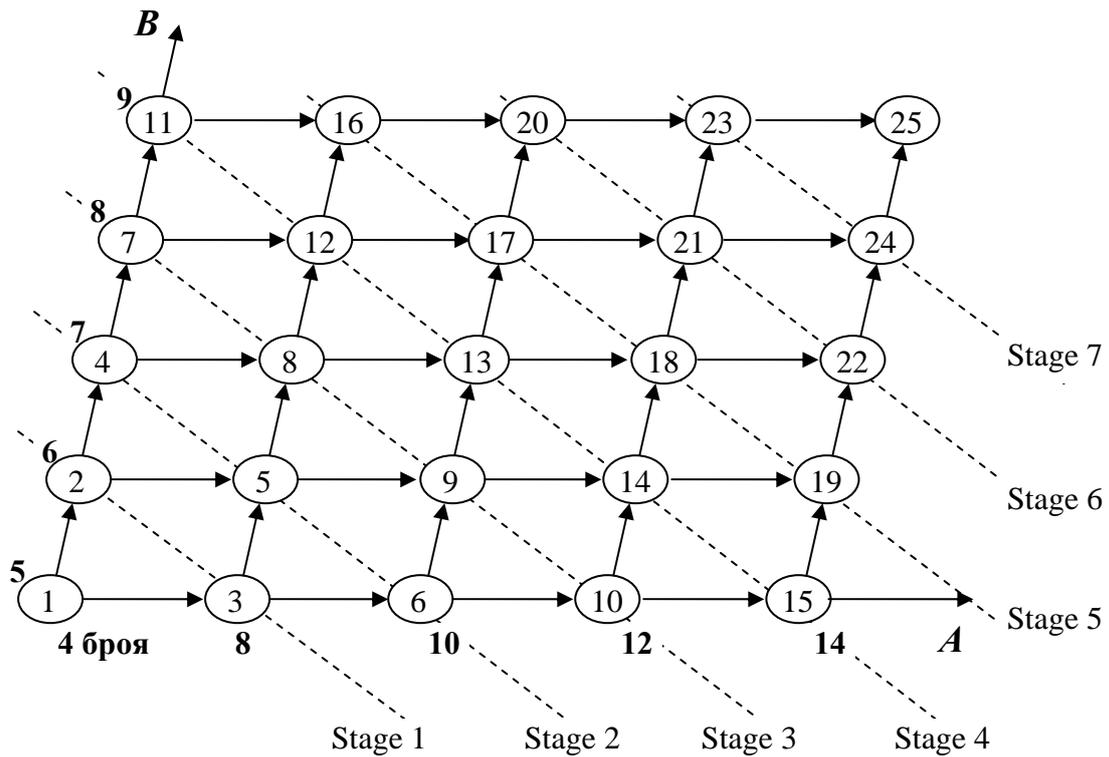

Fig.2. Oriented graph for example 5.
*Solution:* a) Obviously the states of a finite number and the stages correspond to every monthly purchase. To arrange the states we represent them using the oriented graph from fig. 2.